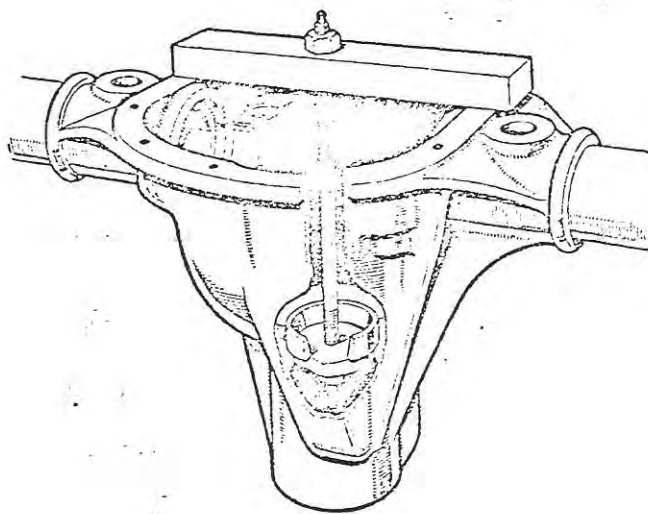

FIGURE 5
- (4) Remove the pinion oil seal together with the oil slinger and outer bearing cone.
- (5) Examine the outer bearing for wear, and if replacement is required, extract the bearing cup, using Tool SL.12 (SE.105) with appropriate adaptor. The Tool SE.105 is shown in Figure 5. The extractor plate should be installed behind the bearing cup and then the drawbar may be fitted together with the extractor bar which seats on the nose of the gear carrier. The bearing cup may then be withdrawn by tightening the nut on the drawbar.
- (6) Remove the inner pinion bearing cup as shown in Figure 5, using either Tool SL.12 or SE.105 as available, if the bearing needs replacement or adjustment of the pinion cone setting is to be undertaken. Take care of the shims fitted between the bearing cup and the housing abutment face.